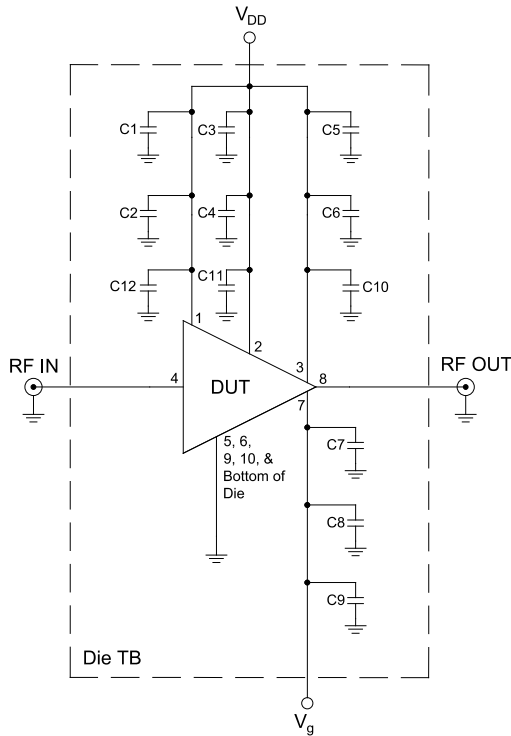

Figure 3. AVA-17303-D+ Evaluation and Application Circuit
- Refer to the table in Figure 3. for more details on the passive components